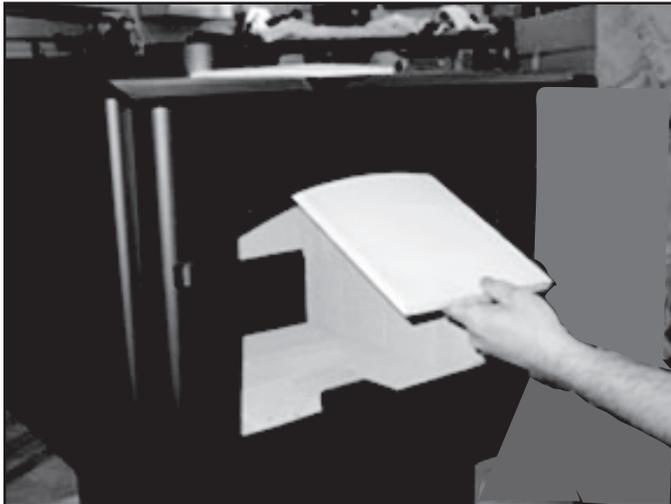

Figure 25.1 - Baffle
3. The baffle board has 2 pieces. With the ceramic blanket still in place, slide one baffle piece over the top of other one and pull out top piece through the door opening and then remove bottom baffle piece (Figure 25.1).
6. Slide the baffle pieces one piece at a time underneath the blanket. Be sure the baffle boards are even with the front manifold tube and is resting on all tubes (Figure 25.1 and 25.2).